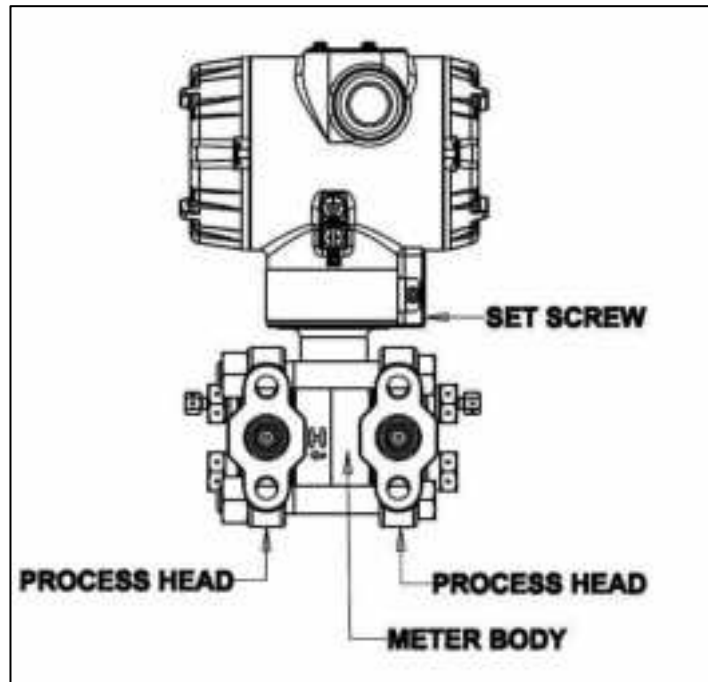

Figure 25 – ST 700 Standard Transmitter - Hardware Location to Remove the Meter Assembly
4. Refer to Figure 25. Loosen the End Cap Lock and unscrew the End Cap from the electronics side of the transmitter housing.